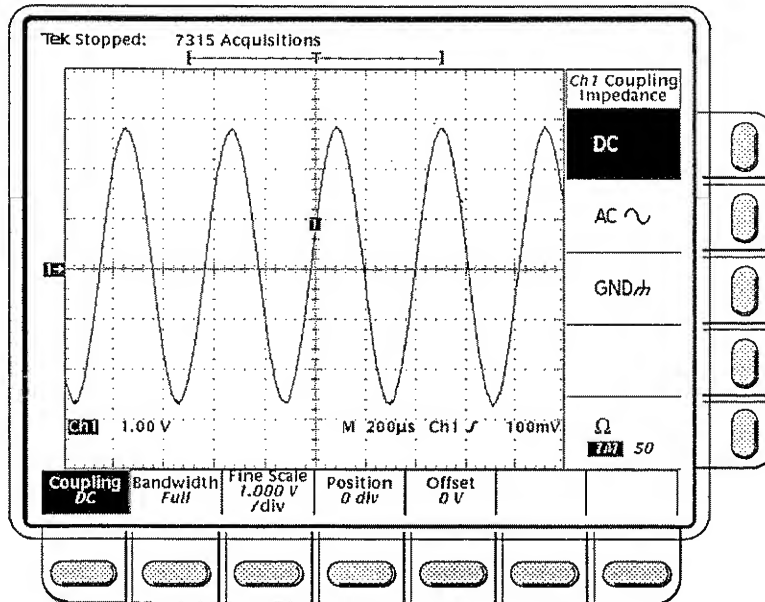

Figure 3-69: Vertical Channel Menu
- ☐ **Step 3:** Press the **VERTICAL MENU** button to call up the appropriate vertical menu (Figure 3-69).